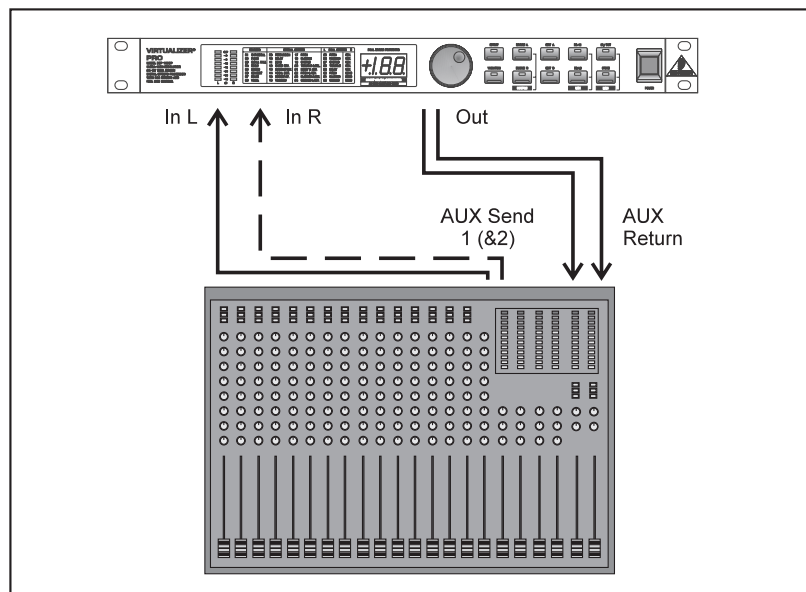

Fig. 3.1: Wiring aux busses
- ▲ Connect the VIRTUALIZER PRO to the aux bus of your mixing console (fig. 3.1). Connect the units to the mains and adjust the operating level(s) if necessary. Switch on the VIRTUALIZER PRO and set the levels appropriately (see 3.1). Press the Mix combination to make sure that the unit is set to Mix External mode. Press the EFFECT key and use the jog wheel to select and thus activate the chorus effect (#19). Slowly turn up the aux bus level until the effect portion added to the guitar signal suits your needs. Subsequently, you can make all necessary fine-adjustments. We assume that you wish to edit the modulation frequency of the chorus effect: press the VARIATION key and set the modulation frequency with the jog wheel. To set the modulation delay, press the EDIT A key. The modulation depth of the chorus effect can be set by pressing the EDIT B key. Having edited all parameters as desired, you can save the changes to the original (or any other) preset.